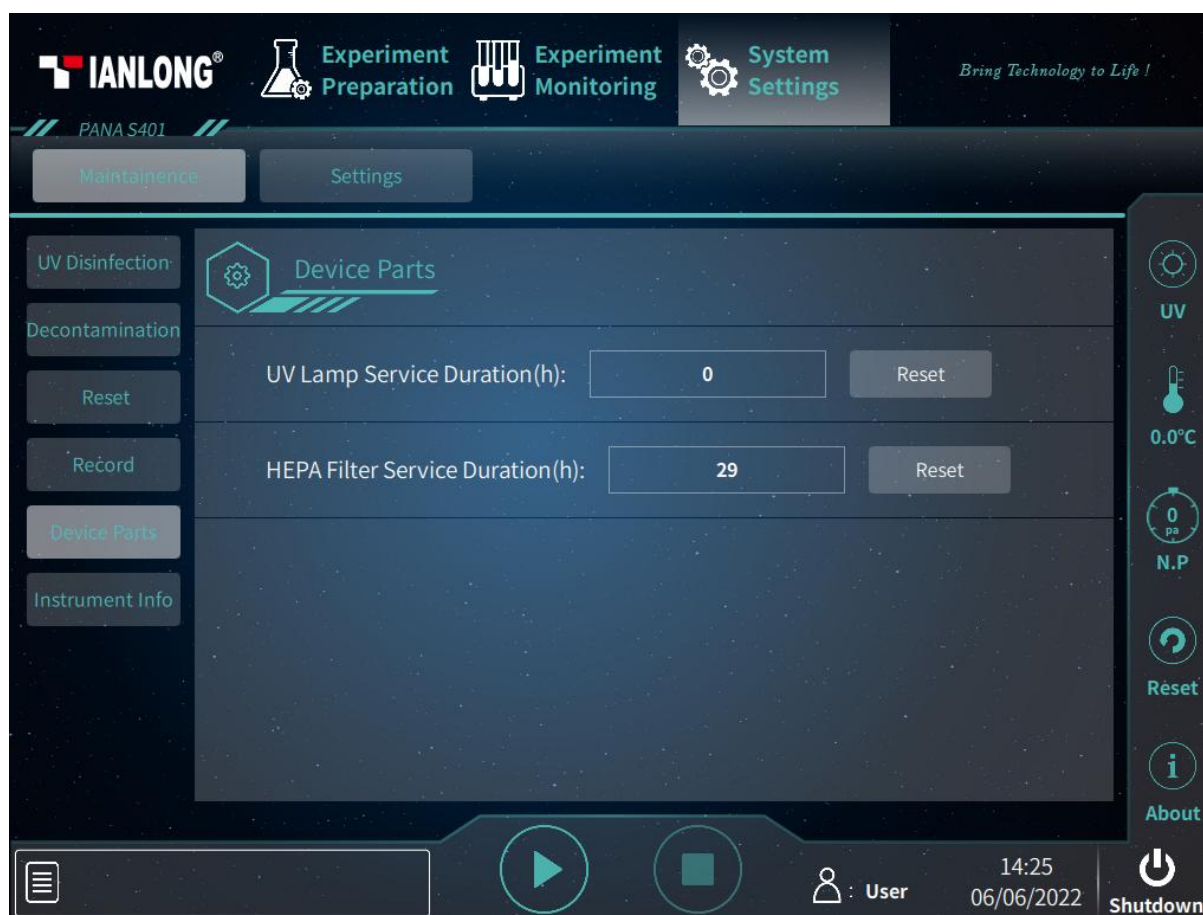

Figure 5-20. System Settings Interface – Maintenance Tab – Device Parts
- **< Device Parts >**: User could click this function key to view UV lamp and HEPA filter service duration, as shown in figure 5-20. Both UV lamp and HEPA filter service duration are 1000 hours, maximally. If it serves out of 1000 hours, system will remind user to change the corresponding parts with a pop-up window. Handling System could count down from the beginning after user changes the parts and clicks reset button.